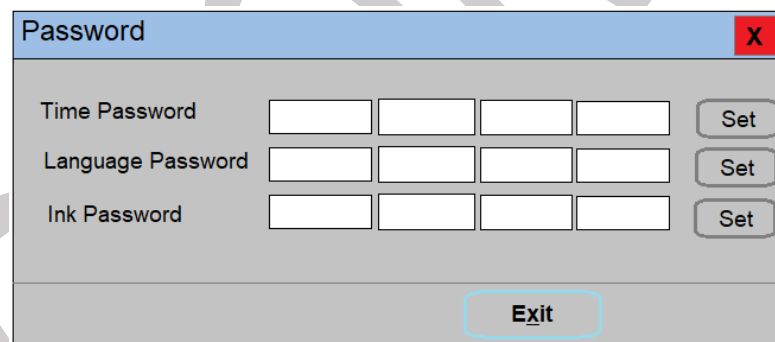

Fig 22: The Password Window
**Step 2:** Feed Password in the **Time Password** field (Refer to Fig 22).
**Step 3:** After feeding the passwords, click on the **Set** button (Refer to Fig 22).
**Step 4:** Click on the **Exit** button to close the **Password** window (Refer to Fig 22).
- Password Screen (Refer to Fig 22)